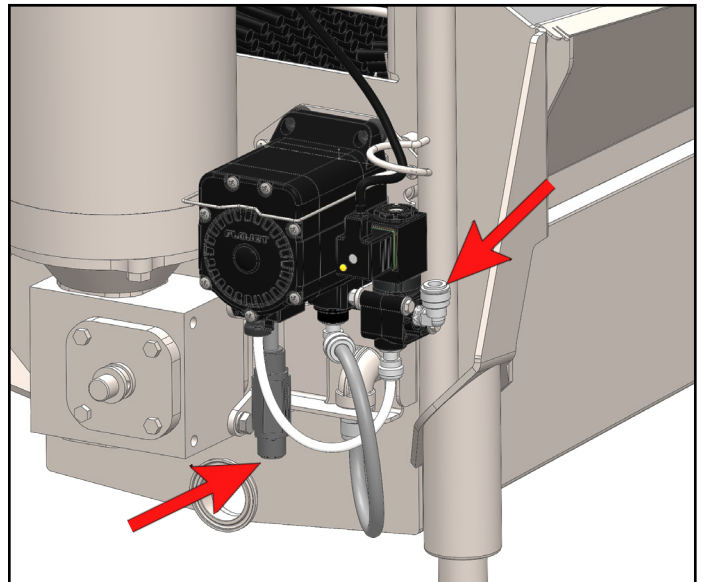

Fig. 22.2: Air and solution inlets
1. Connect compressed air (40 psi min.) to solenoid valve quick fitting inlet using 3/8" LDPE tubing or similar [Figure 22.2].
2. Connect solution source to check valve of pump inlet using 3/8" clear LDPE tubing (included) [Figure 22.2].